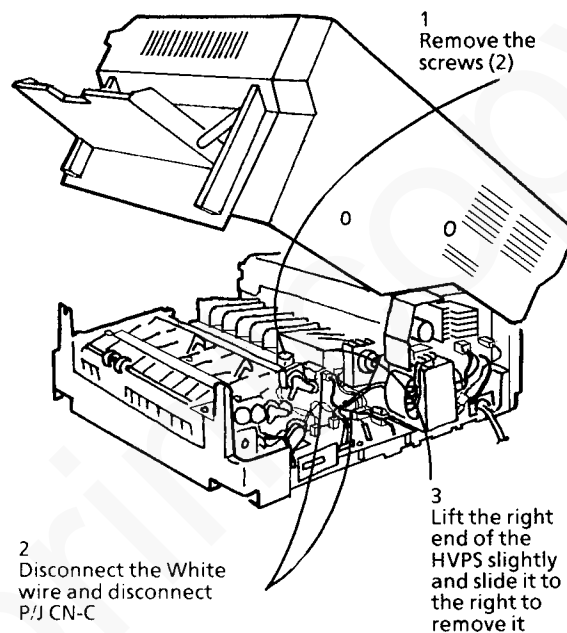

Figure 1. Removing the HVPS
4. Remove the HVPS (Figure 1).